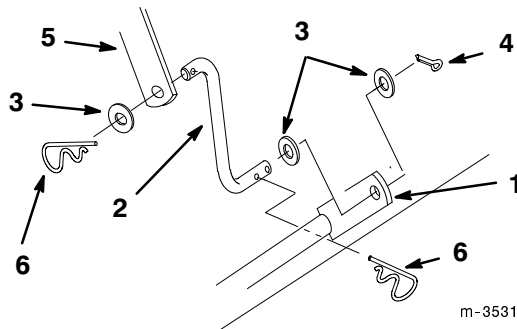

Figure 6
7. Install link to mower lift arm with 1 in. cotter pin, two washers (3/8 in.) and a hairpin cotter (2-9/16 in.) (Fig. 6). Attach rear link to the tractor rear attachment lift arm with a washer (3/8 in.) and a hairpin cotter (2-9/16 in.) (Fig. 6).